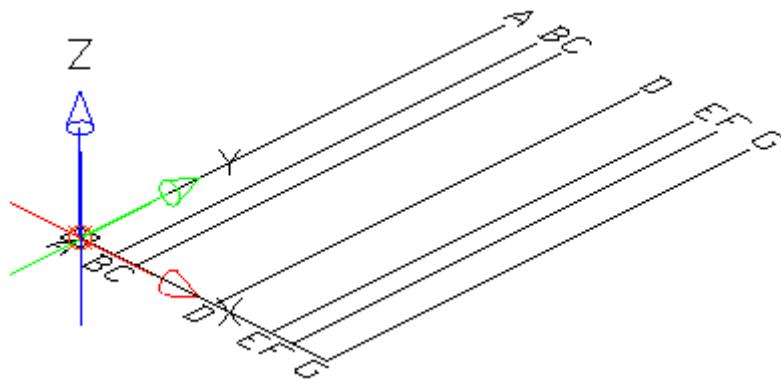

Figure 6: Defining the end point of the axis group
3. Define the end point of the grid line by dragging the mouse pointer (with the **Ortho** mode on, F8) to the **A** axis corresponding end point as in the Figure 6: